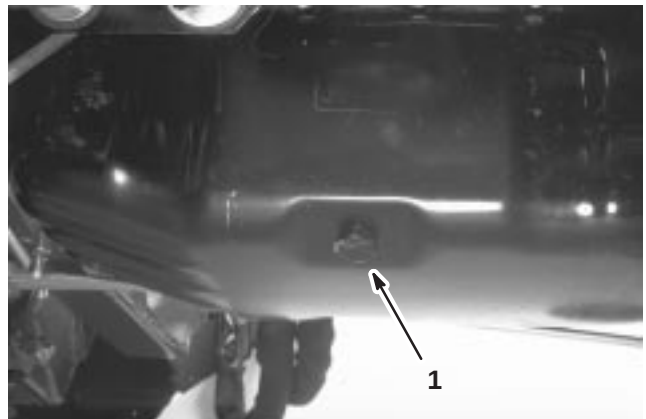

Figure 36
2. Place drain pan in line with the drain plug (Fig. 36). Clean area around drain plug.